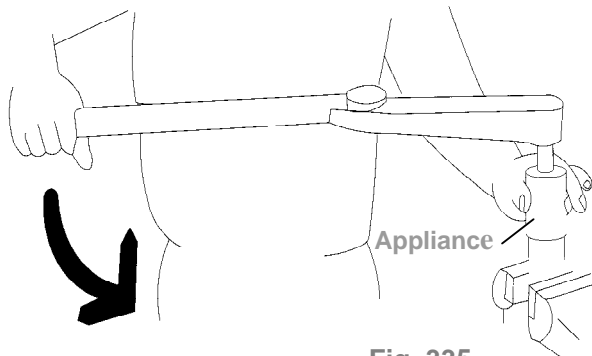

Fig. 335
(3) Pulse Unit Disassembly:
① Fix the pulse unit by a vise. Use the appliance (see Table 45) to loosen the lock nut on the pulse unit, Fig. 335.